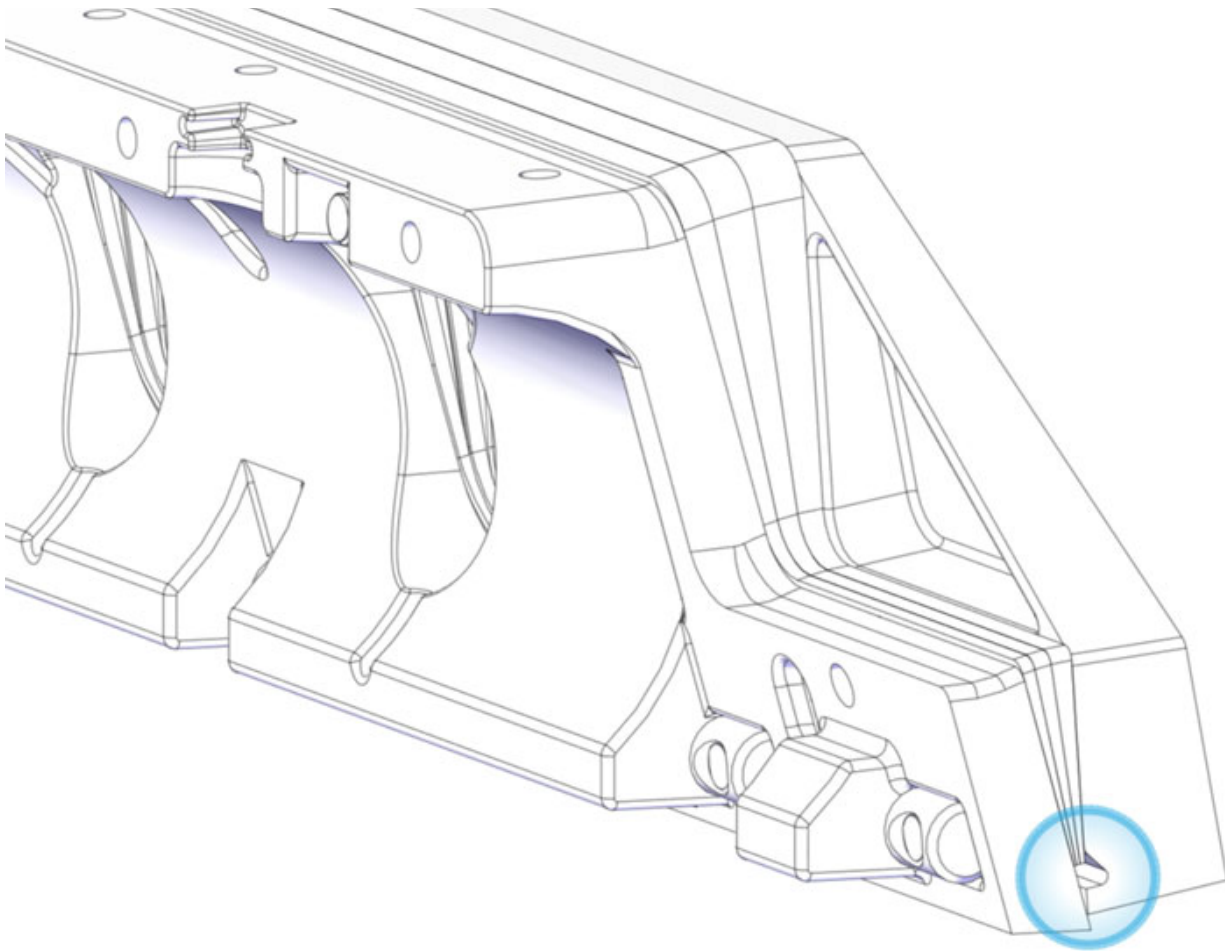

Figure 53 – Drain Hole in Wedge Pack
5. After fairing, check that the drain hole has remained clear. See Figure 53.